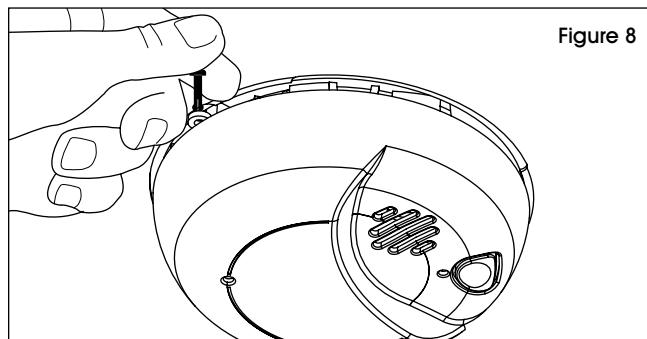

Figure 8
2. Insert the locking pin into the lock located on the base. (See Figure 8)